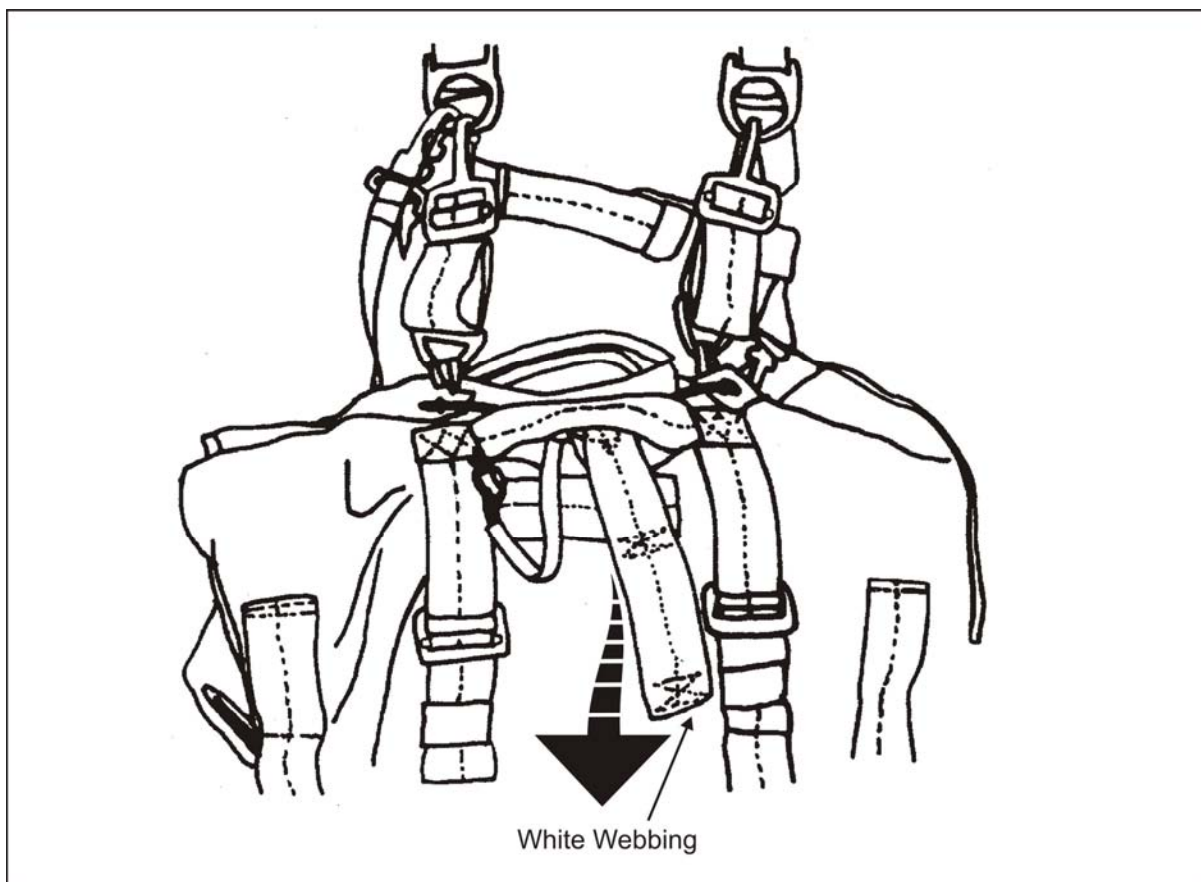

Figure 5-29. Single-Action Release Handle
- Once under canopy, and IAW unit SOP, pulls the white webbing of the single-action release handle to lower the equipment load (Figure 5-29, page 5-26).